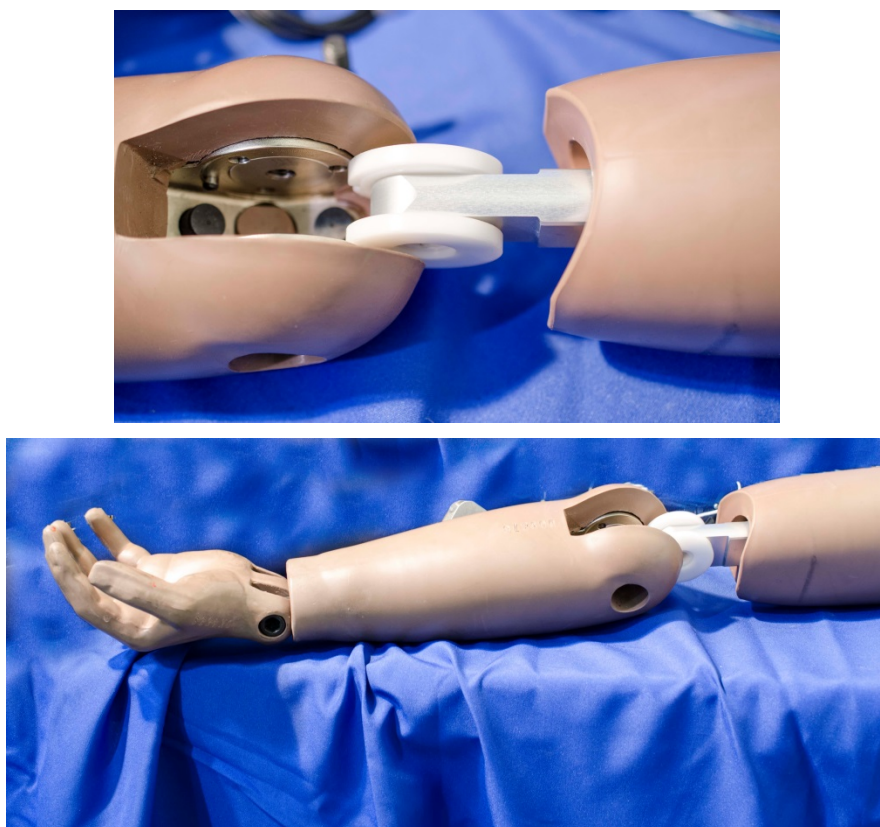

Figure 13-13. Attach lower and upper arm
13.2.2.8 Slide the assembly into the lower arm (Figure 13-13).